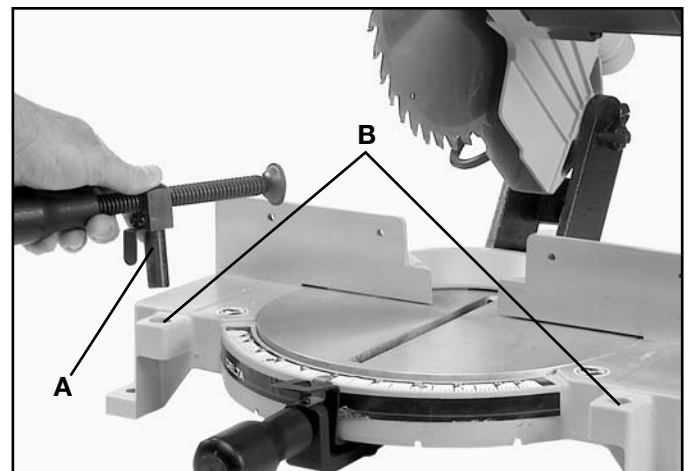

Fig. 25
2. Two holes (B) Fig. 25, are provided in the base of the miter saw enabling you to use the clamp (A) on either the right or left hand side of the saw blade.